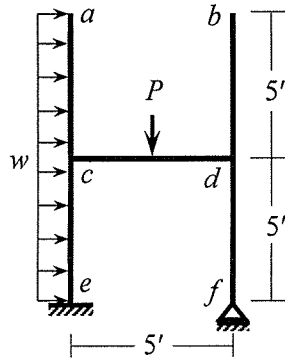

Fig.2
- Use the Energy Method to calculate the load (i) P needed to form beam mechanism, (ii) w needed to form the sidesway mechanism in the frame **abcdef** loaded as shown in **Fig.2** [Given: $M_p(\text{beam}) = 250 \text{ k-ft}$, $M_p(\text{column}) = 300 \text{ k-ft}$].